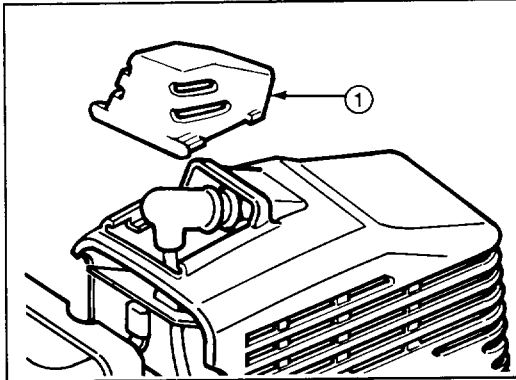

Figure 15
1. Stop engine. Remove spark plug cover by squeezing sides and slide off engine cover (Fig. 15). Pull wire off spark plug.
1. Drain gasoline from fuel tank. Remove spark plug cover by squeezing sides together and slide off engine cover (Fig. 15). Pull wire off spark plug.